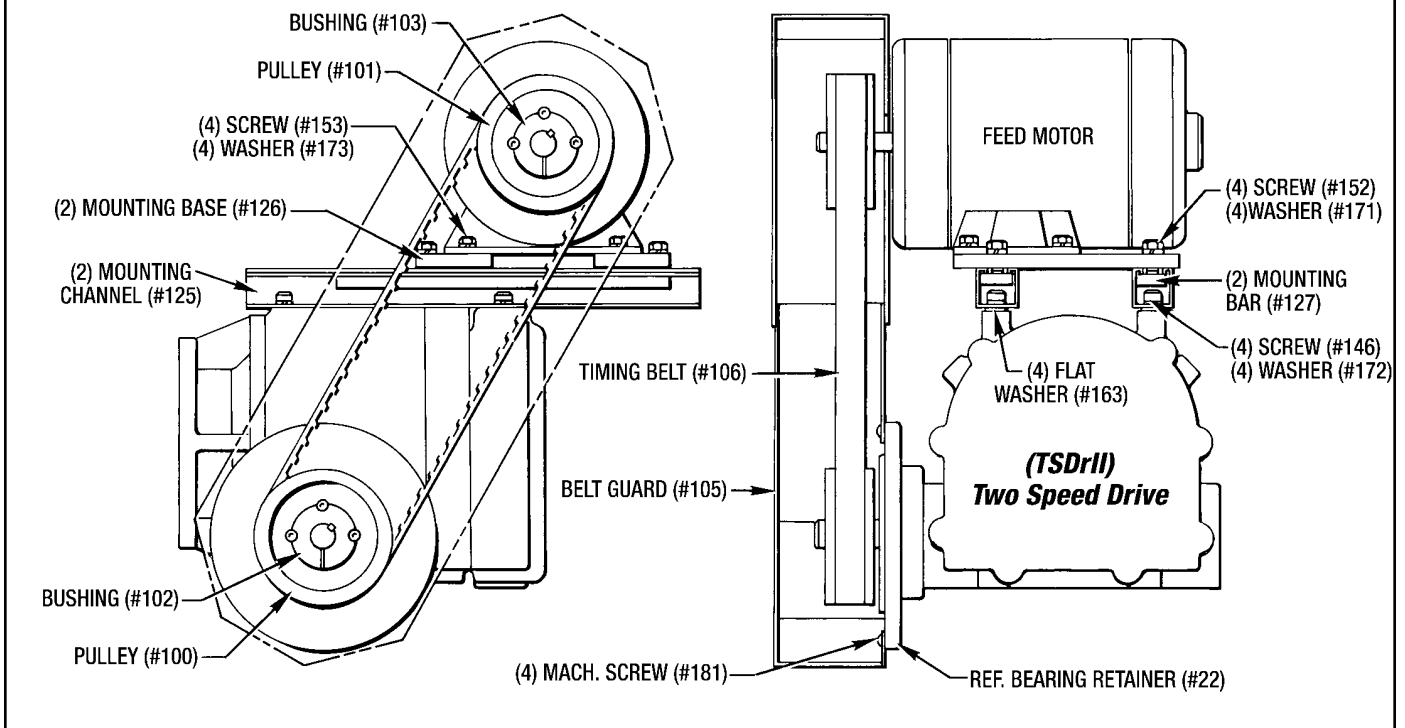

Figure 9.20 - Belt Drive (Top Mounted Feed Motor)
- A. Top Mounting (See Figure 9.20)